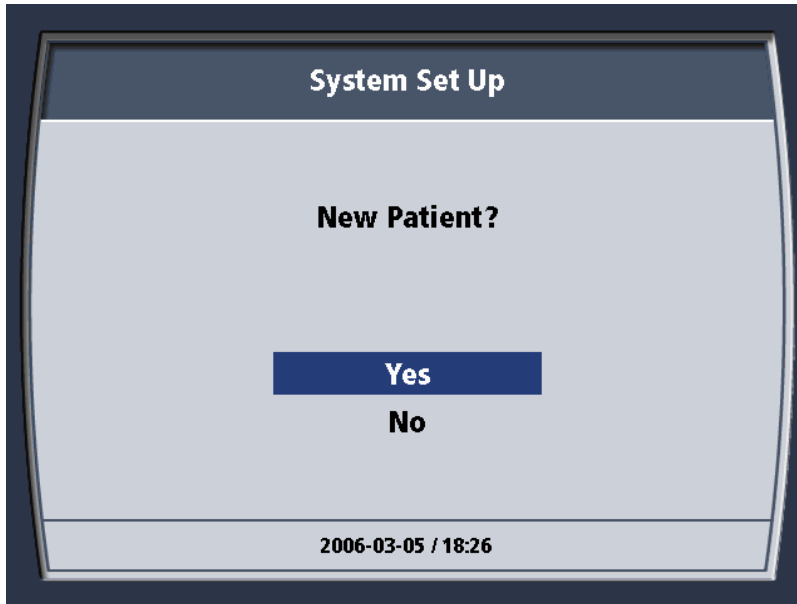

Figure 4.57. New Patient? Message
2. If you select “No” and press the knob, you will continue to be presented with screens that allow you to select operating parameters for the console prior to entering Standby starting at Figure 4.57– see below. If the console detects that it is more than 3 minutes since the last time it was powered down, it will conduct all its self tests. You will not be offered the option of operating the console at the current settings.